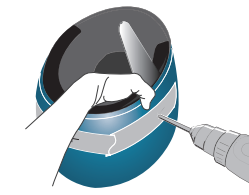

Figure 6
- 5 Slowly drill a 1/4" (6mm) hole at the two hole centers marked above. Drill through the helmet shell but not through the soft padding. A thin piece of sheet metal can be slipped between the shell and padding to help this. **See Figure 6**